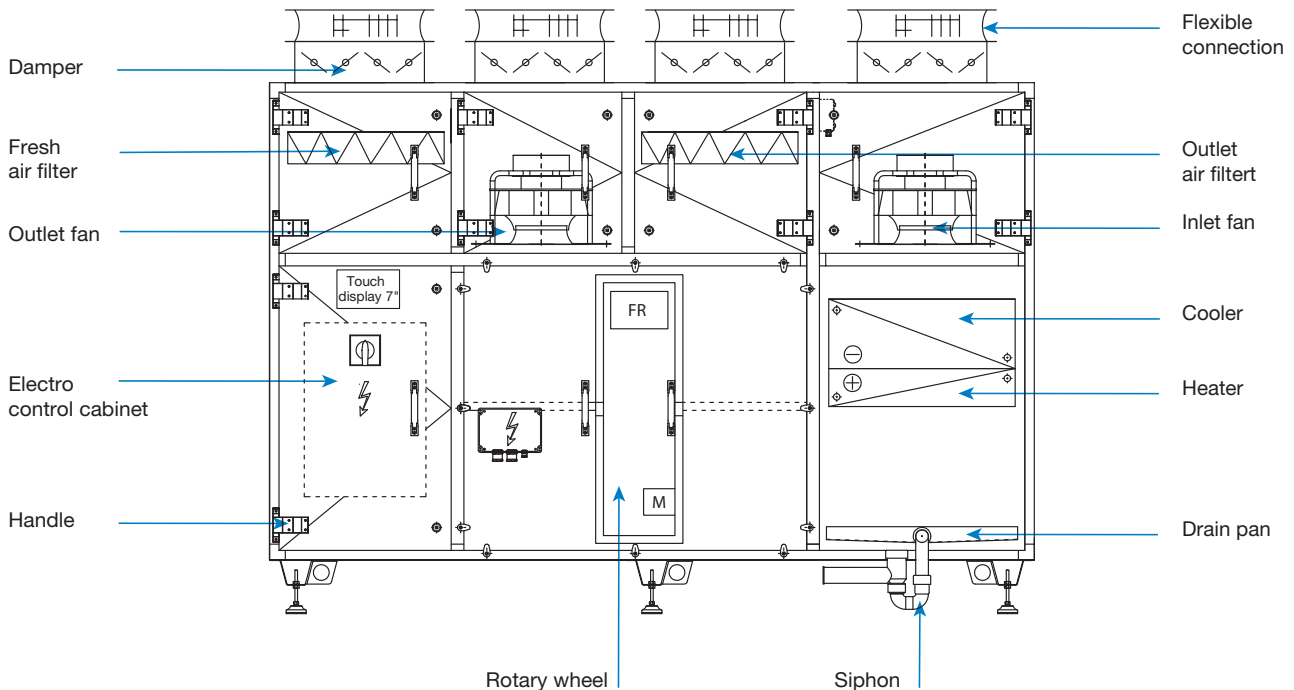

Figure 30
**Vertical connections:** with top connections and all optional sections – Figure 30.